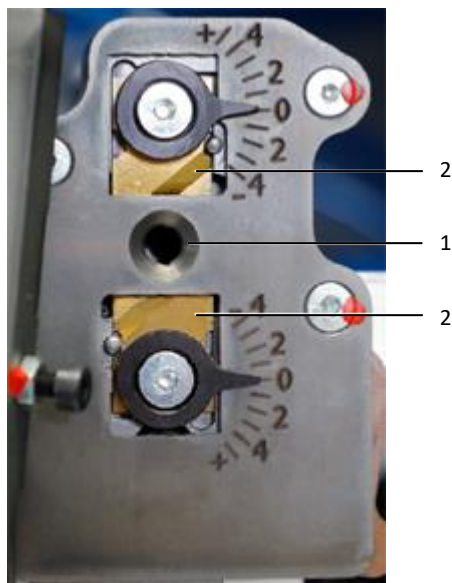

Fig. 12: Insulation stripping unit
- Clean the area around the hole (fig. 12, item 1) with a brush.
- Check the cutters (fig. 12, item 2). If required, replace the blades (see section 8.3 "Replacing the insulation stripping blade").